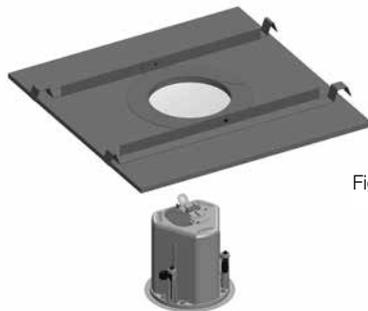

Fig.2
3. Place the C-Ring and tile-bridge on top of the ceiling panel, aligning the C-Ring over the hole, and screw the C-Ring to the tile bridge using the fixings provided. (Fig.2)
5. Slide the speaker assembly through the hole. Turn the screws (denoted "Screw Fix") clockwise on the front of the speaker to extend the mounting wings. Tighten the screws until a firm grip is achieved. (NOTE: Screws have a PoziDrive head; use of a PoziDrive driver is recommended). If using a power driver, Tannoy recommends a torque setting of 1.5 Nm. (Fig.2)